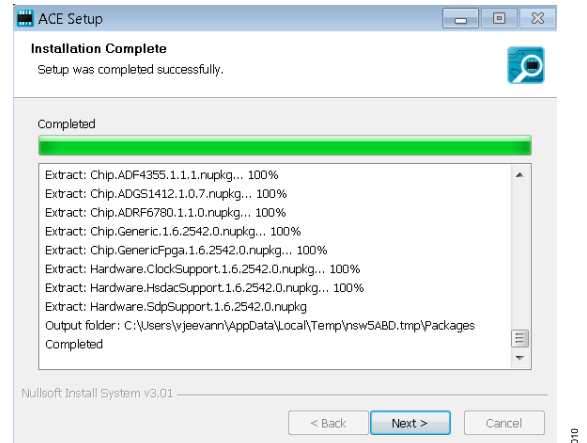

Figure 14. Installation Complete
9. When the installation completes, click **Next >** (see Figure 14), and then click **Finish**.